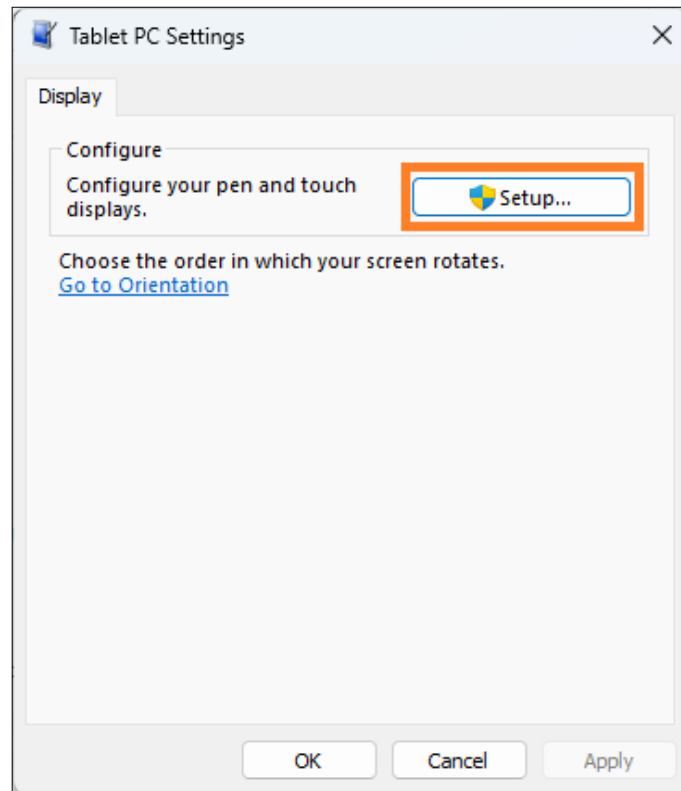

Figure 31: "Tablet PC Settings" dialogue – Setup.
- 4 Click on the *“Setup”* (see Fig. 31),